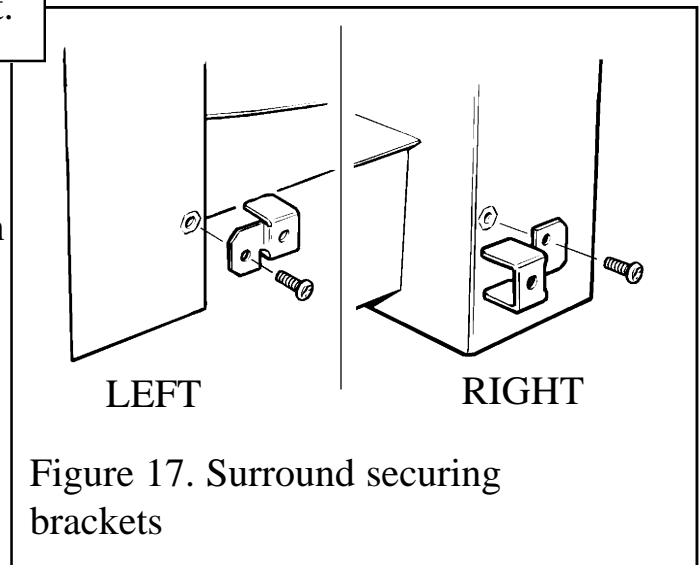

Figure 17. Surround securing brackets
10. Fit the two surround securing brackets to the convection box side flanges with the screws supplied. Note the different orientation of the brackets at left and right sides (See figure 17)